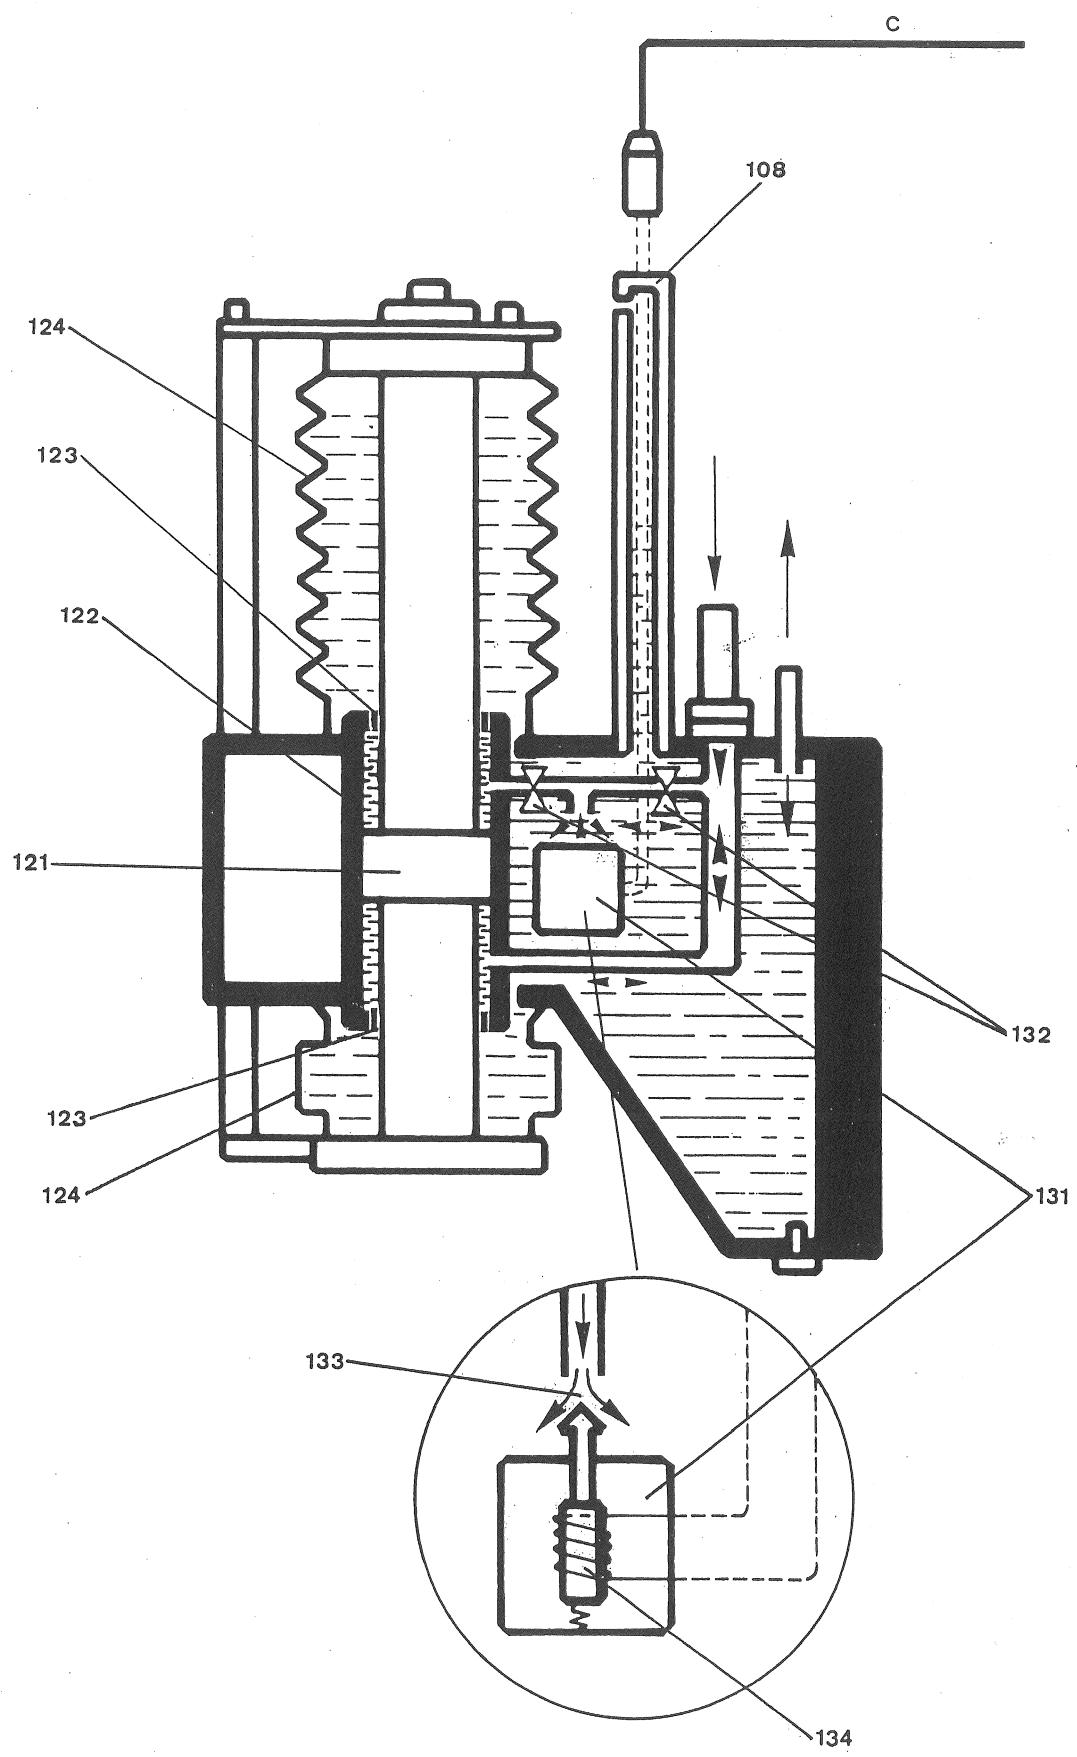

Fig 1
8.9 HYDRAULIC CIRCUIT (fig. 1)
- 109 Air exhaust outlet at the upper end of tube (107).